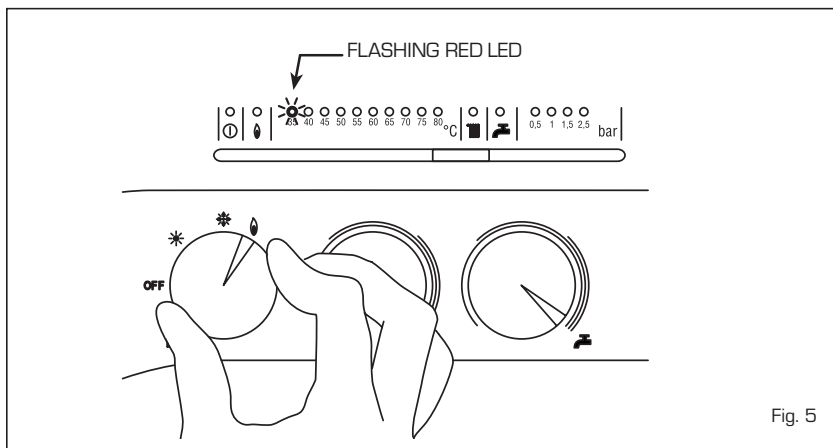

Fig. 5
**- Safety stat trip (fig. 5)**